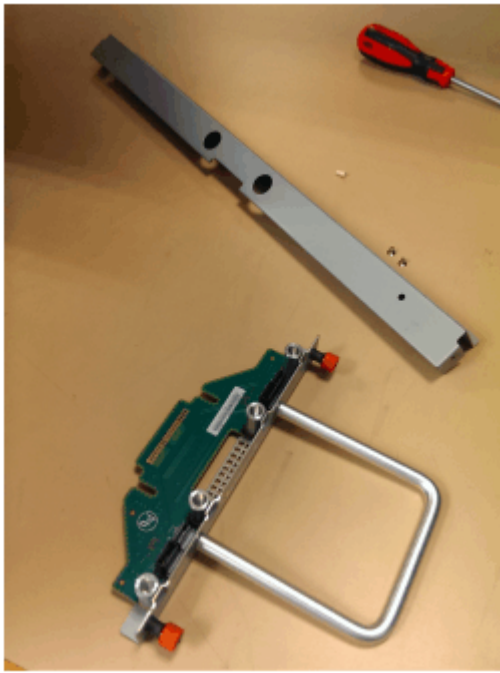

Figure 151. FIB parts removed from the chassis
4. Place the FIB (shown in Figure 151 on page 189) in a safe location.
6. Assemble the new FIB, cover, and the cover screws in a safe location as shown in Figure 151 on page 189.